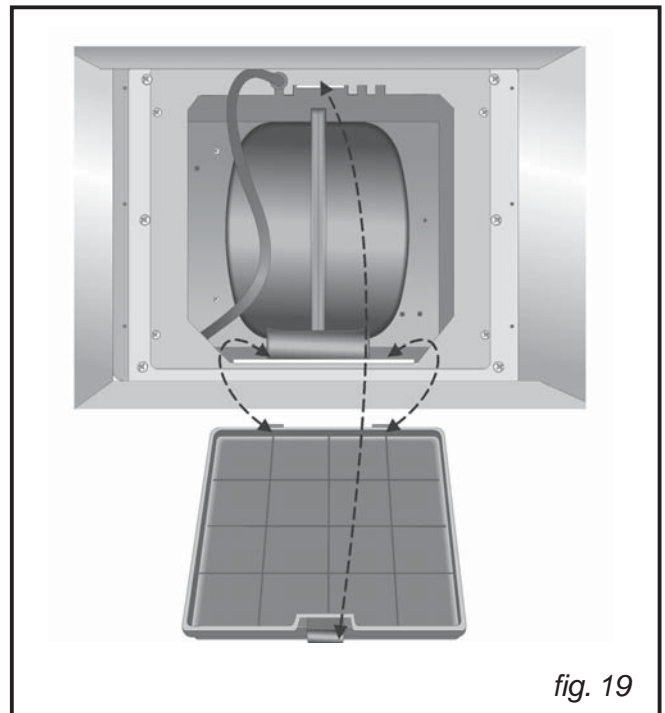

fig. 19
• **Replacing the charcoal filter (Fig. 19)**
Remove the charcoal filter by pressing the catch inwards and turn the charcoal filter until the two tabs come out of their seats (Fig.19).